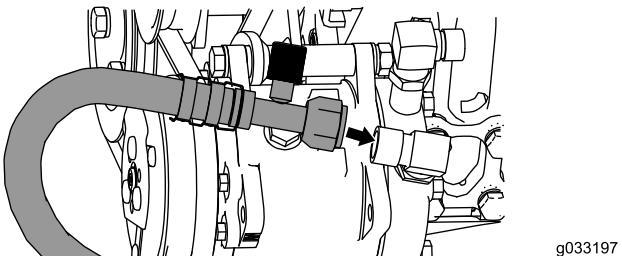

Figure 44
1. Connect the air-conditioning low-pressure hose (7/8 inch) from the cab unit to the right-angle fitting (7/8 inch) as shown in Figure 44.